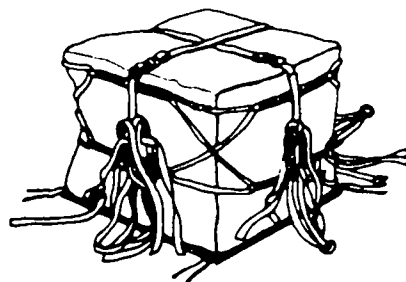

Figure 8-4 Securing the Strap
Step 6 - Route the 188-inch strap over top of the load. Route the free end under the floating safety bar (smooth side) and back over the friction adapter (rough side). Tighten the strap, fold in eight to ten inch loops, and secure (Figure 8-4).